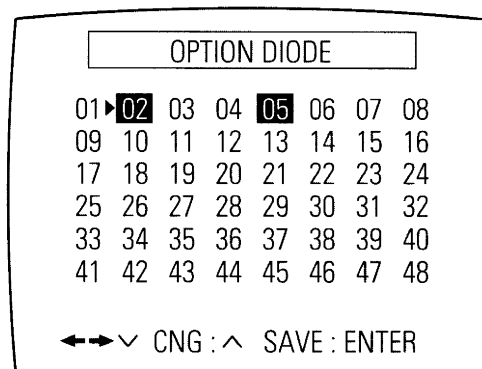

Fig. 5-17
- 2) Press the "MENU (OSP)" button on the remote control about 5 seconds then option setting display is appeared. (See Fig. 5-17)
- 4) If selecting the option number is completed, press the "CH/TRK (PROG.TV) (⇧)" button of remote control. (If "CH/TRK (PROG.TV) (⇧)" button is pressed, the selected number is changes reversed color. ; See Fig. 5-17)